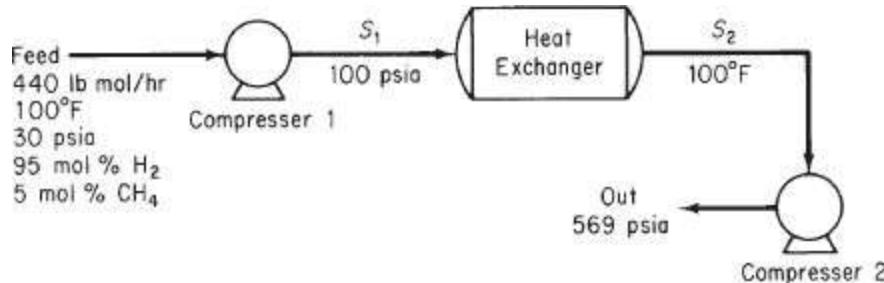

Figure P16.12
16.12. A gas consisting of 95 mol % hydrogen and 5 mol % methane at 100°F and 30 psia is to be compressed to 569 psia at a rate of 440 lb mol/hr. A two-stage compressor system has been proposed with intermediate cooling of the gas to 100°F via a heat exchanger. See Figure P16.12. The pressure drop in the heat exchanger from the inlet stream (S1) to the exit stream (S2) is 2.0 psia. Using a process simulator program, analyze all of the stream parameters subject to the following constraints: The exit stream from the first stage is 100 psia; both compressors are positive-displacement type and have a mechanical efficiency of 0.8, a polytropic efficiency of 1.2, and a clearance fraction of 0.05.